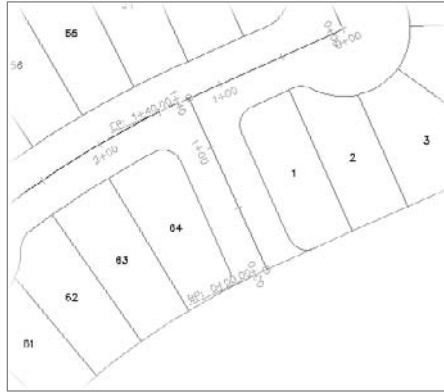

Figure A.44
6. Change the Name: to **Entrance**, and then click OK to dismiss the dialog. Your drawing should look like Figure A.44.